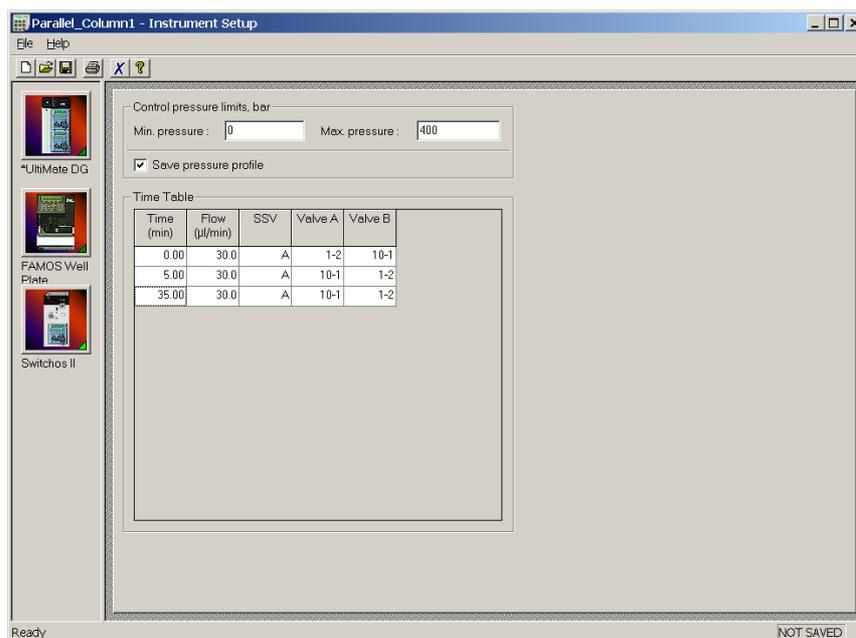

FIGURE 3-20 The Switchos Setup Window
- f) Choose the *Switchos II* icon in the **Instrument Setup** window to display the Switchos II setup window and to program the valve positions. For the Parallel Nano-LC application, the position for valve A and B are opposite in consecutive RP runs as presented in FIGURE 3-20.